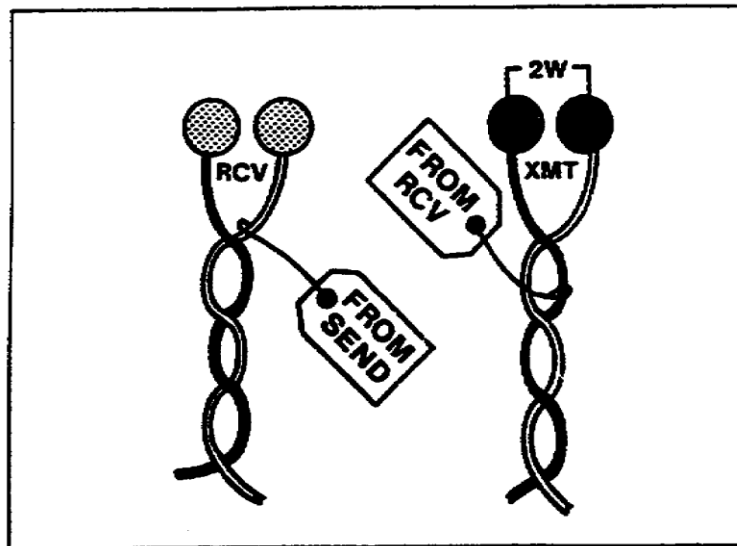

Figure 1-9. Four-wire identification.
d. The pair of wires identified FROM SEND are connected to the RCV binding posts. (See Figure 1-9.)